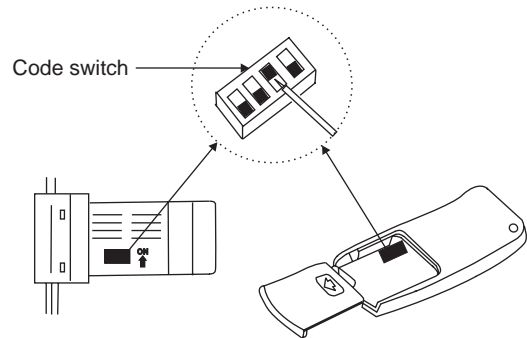

Figure 10
**NOTE:** This remote control unit is equipped with 16 code combinations to prevent possible interference from or to other remote units. The frequency switches on your receiver and transmitter have been preset at the factory. Please recheck to make sure the switches on transmitter and receiver are set to the same position, any combination of settings will operate the fan as long as the transmitter and receiver are set to the same position.(Fig. 10)